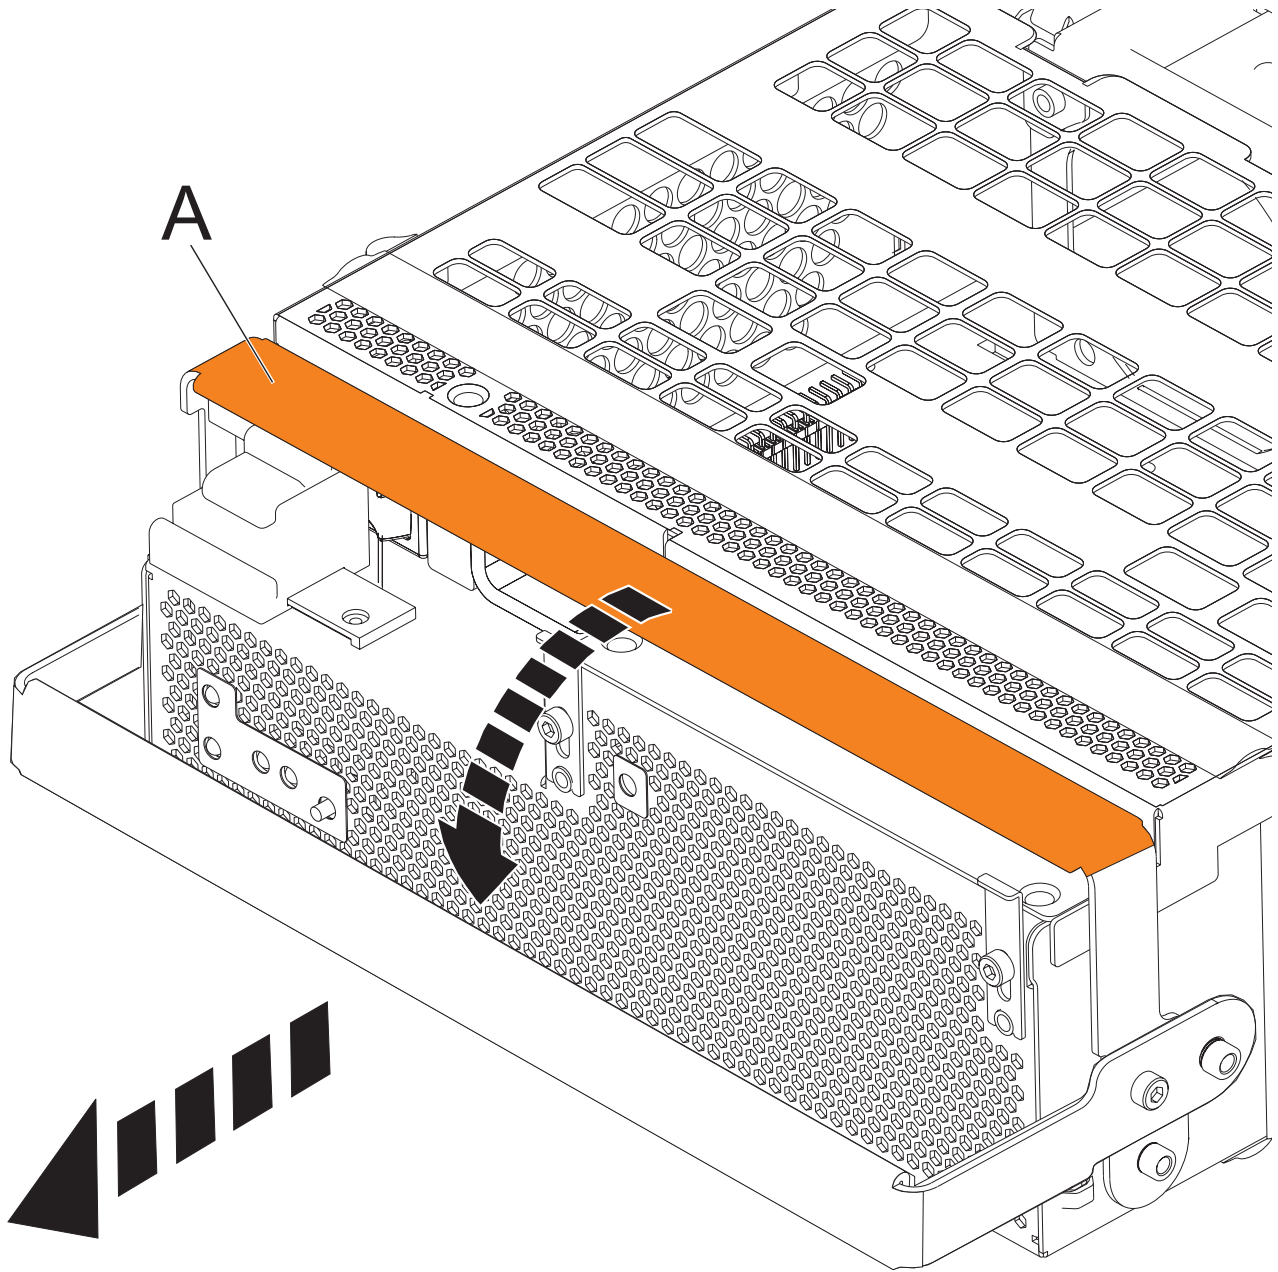

Figure 98. Remove the offline converter assemblies
- a. Pull the OCA handle (A) all the way down in the direction shown to unseat the OCA. See Figure 98 on page 131.